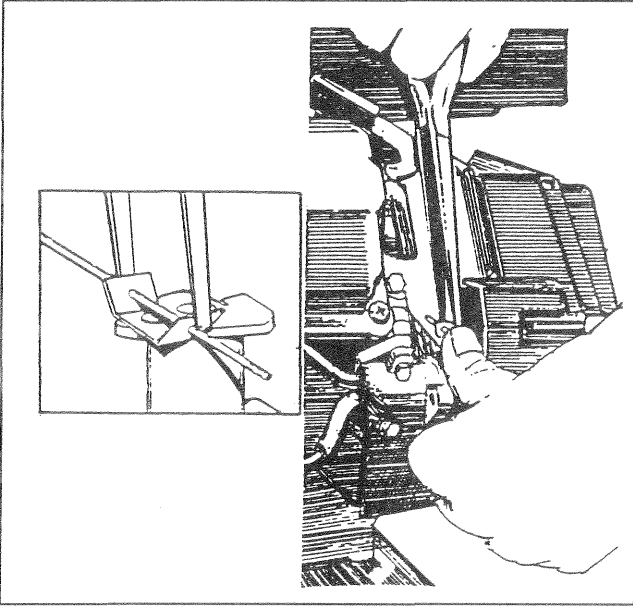

Figure 9 — Adjusting Throttle Linkage
3. With pliers, lightly compress the spring clip on the carburetor lever arm. This allows the linkage rod to slide freely through the clip. While the clip is compressed, rotate the throttle lever in the appropriate direction to increase or decrease the gap until there is 0.003 inch (0.08-0.5mm) clearance (Figure 9).